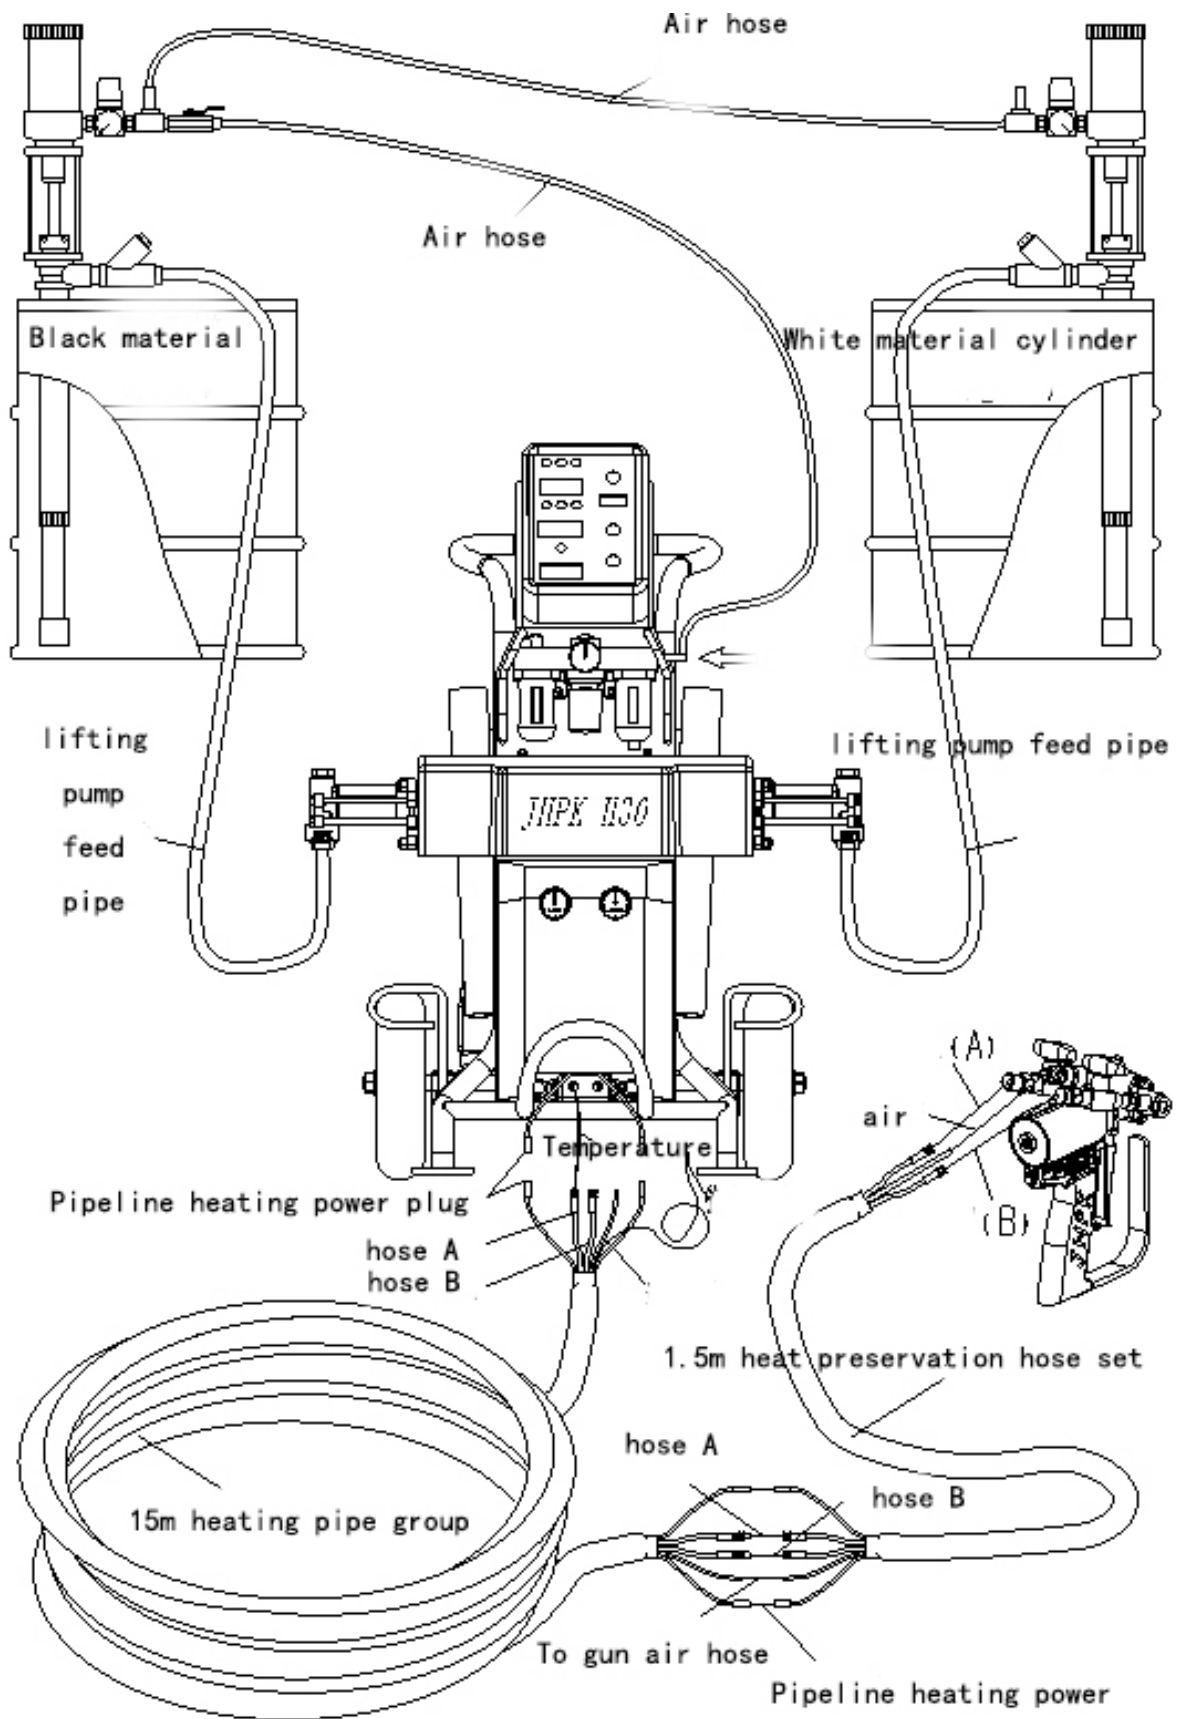

Figure 3
Step 2 , connect the feed pump conveying hose to the discharge hole filtered by the feed pump and the inlet of pump body of the host respectively. See Figure 3.
(2) Installation of the discharging system:
Firstly, remove the plastic insulation sleeve that outside of the temperature sensor wholly, feed the temperature sensor (armored extra-long thermocouple) at the exit of the main machine exit slowly into the black material pipe through the black material joint of the heat preservation hose group (the hose end is protruding). Attention shall be needed to avoid hard bending of the sensor sleeve and care shall be paid to protect the sensor on the tip. Then, the feed material is delivered out of the heat preservation hose set in sequence and is sent to the sprinkler gun via the main machine. This step is very easy. The hose run shall be clearly identified to avoid incorrect connection. When the connection from the main machine to the polyurethane sprinkler gun feed hose set is completed, it should look like Figure. 3.